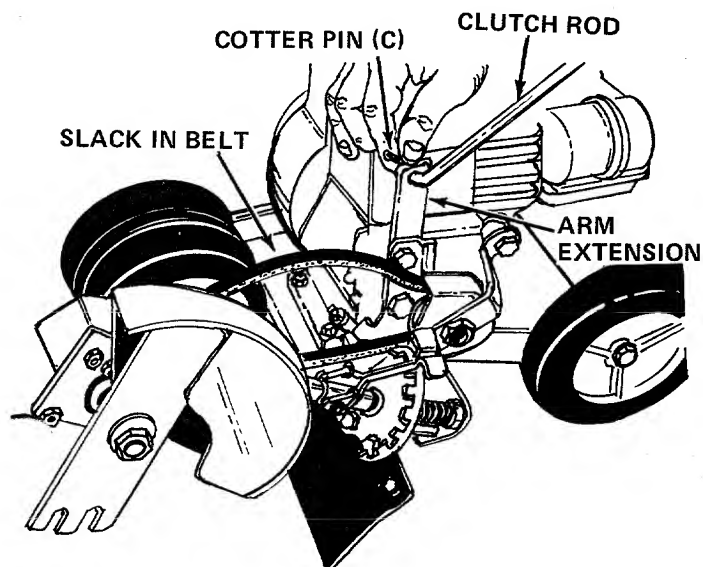

FIGURE 11
18. Pull the blade and guard assembly all the way back by hand until there is slack in the belt. See figure 11.
19. Secure the end of the lower clutch rod half to the arm extension on the pivot bracket with cotter pin (C). See figure 11.
20. Secure the throttle control cable to handles with two cable ties (I).